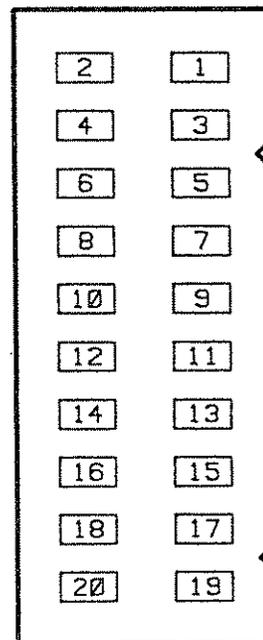

Figure 2-5. Connector for W16 and W17
15. With an oscilloscope, observe the TTL activity on pins 2 and 4 of cables W16 and W17 during a vertical sensitivity change. See figure 2-5.